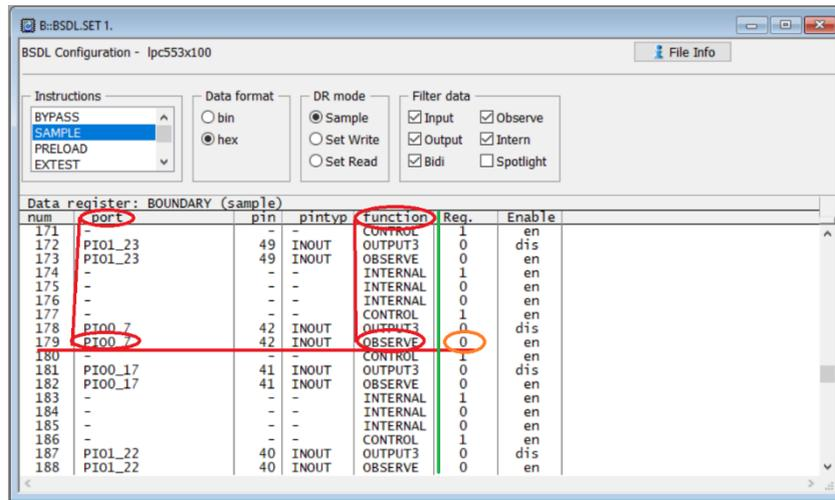

Figure 27. Sample low level on P0_7
- Apply a low level to this pin. Check the sample result and it is **0**, as shown in Figure 27.